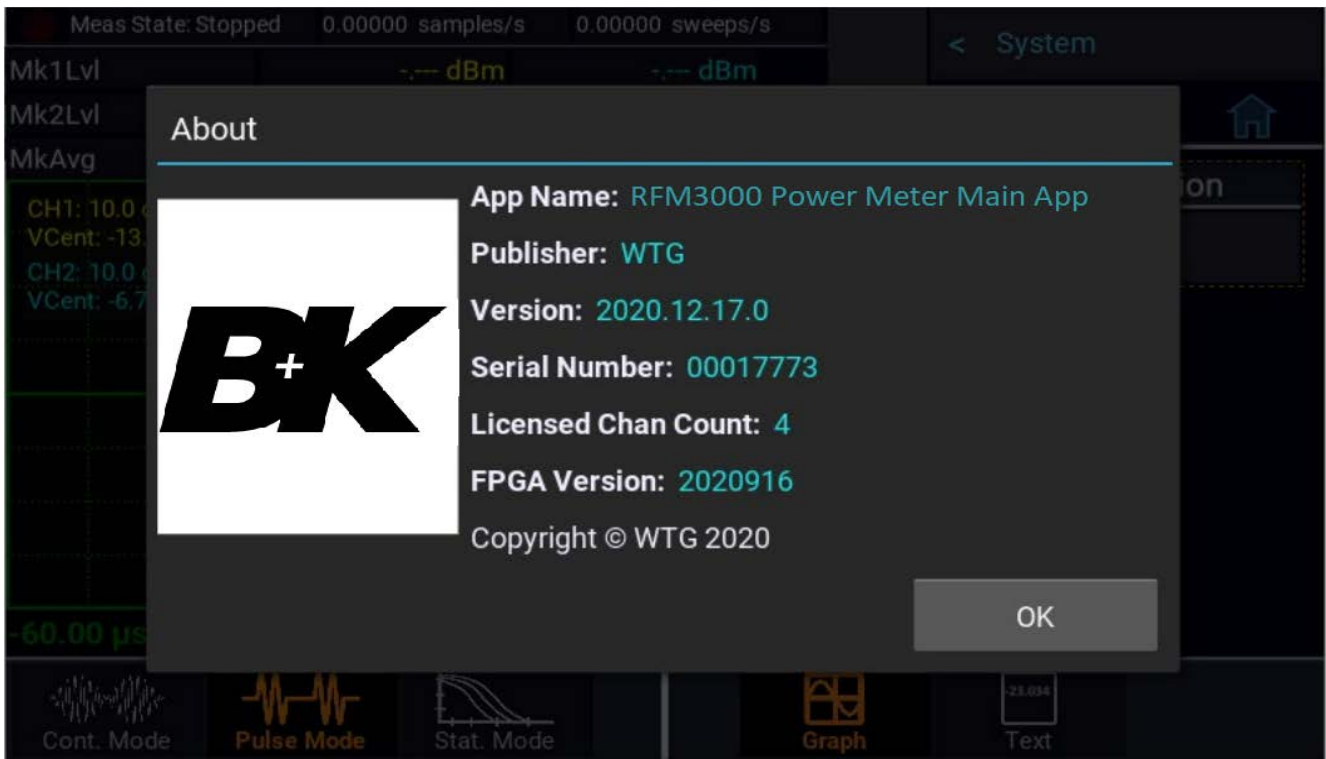

Figure 2.2 Configuration Report Display
- On the front panel, press the select key to bring up the on-screen menu. From the Main menu, use the touch screen or the navigation keys on the front panel to browse to System > Reports > Configuration and select Show. A display similar to figure 2.2 will appear.